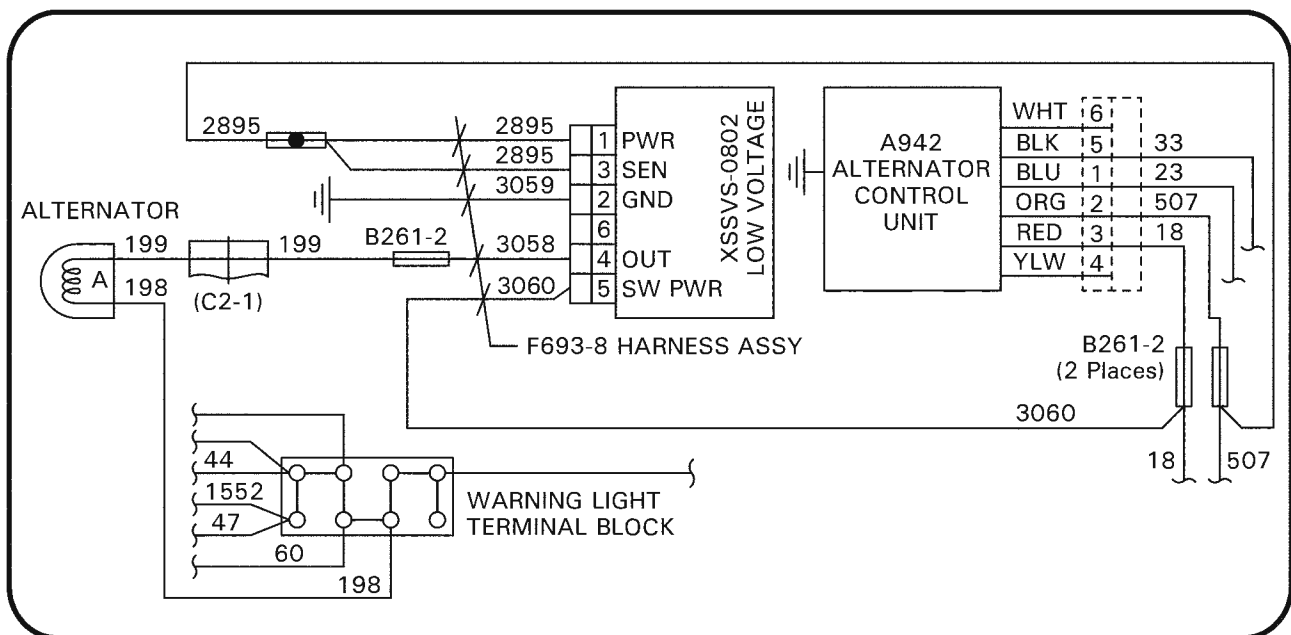

FIGURE 1
4. Refer to Figures 1 & 2. Locate wire (-18) in wire bundle attached to B263-19 housing, cutting ty-raps as required. Splice F693-8 harness assemblies' wire (-3060) to wire (-18) using B261-2 butt splice; verify security.